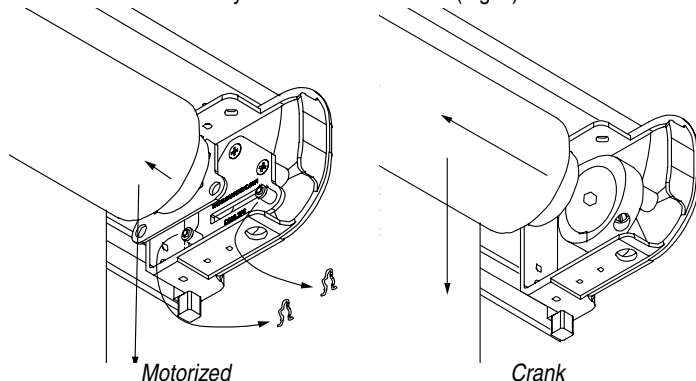

Figure 4
- ② Remove screen assembly from screen case. If motorized, remove motor retaining clips. Pull the screen assembly away from the operator end. This will depress the spring-loaded pin on the non-operator end. Then you can rotate screen assembly out of the screen case (Fig. 4).
- ④ Replace screen assembly in screen case. Place the spring-loaded pin on the non-operator end into the endcap. Push the screen assembly toward the non-operator end to depress the spring-loaded pin, then rotate screen assembly into the screen case.
- ⑤ Lower viewing surface approximately 12" to begin guide installation.
- ⑥ If motorized, replace motor retaining clips (see Fig. 4).